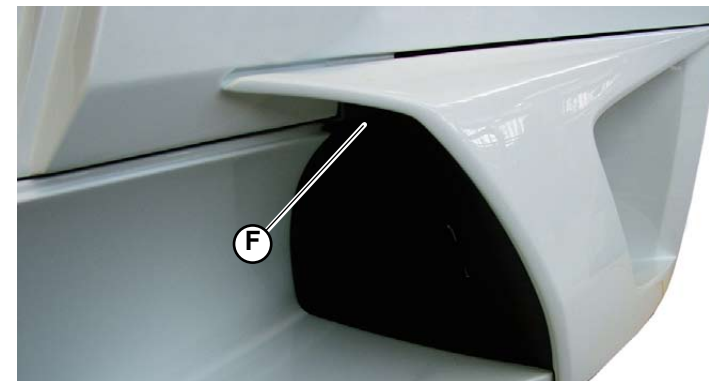

Fig.3
7. Tighten the screw (**F-Fig.3**) at the front of the conveyor.